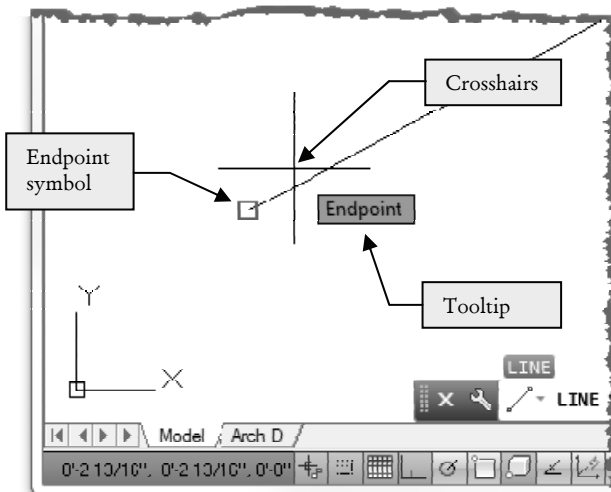

FIGURE 2-2.6 Endpoint OSNAP symbol visible
6. On the *Home* tab, in the *Draw* panel, pick the **Line** command, move your cursor to the lower-left portion of the diagonal line (Figure 2-2.6).